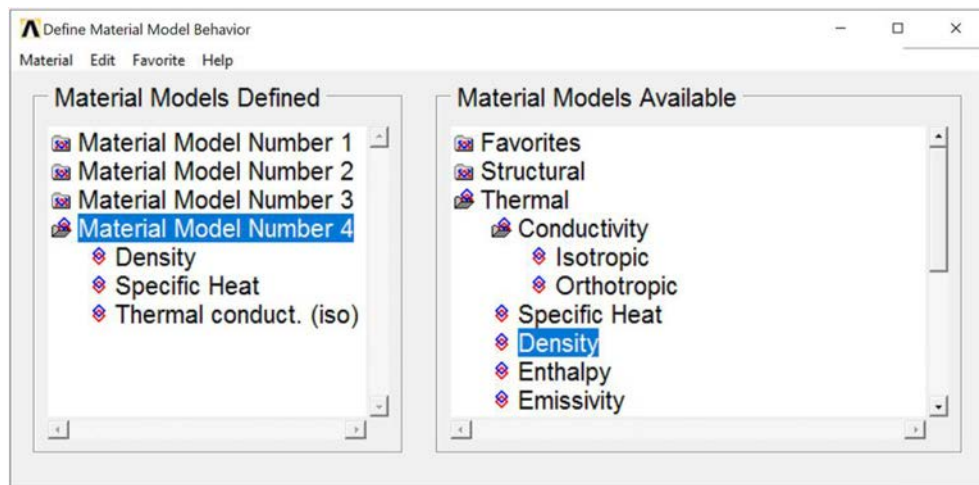

Figure 8-1-2 Four Material Models Defined.
- Preprocessor > Material Props > Material Models (Figure 8-1-2)